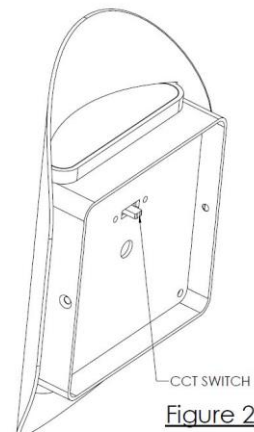

Figure 2
- C. Connect the white wire from the fixture to the white (N) wire from the supply power source.
- D. Connect the black wire from the fixture to the black (L) wire from the supply power source.
- A. CCT switch is located on backside of fixture per Figure 2. Adjust switch to desired temperature of 2700K, 3000K, 3500K, 4000K, or 5000K as seen below. Note: Fixture is preset to 3000K from factory.
- A. Install the fixture (3) by aligning side hole with the mounting bracket (1) then using two screws (4) to secure it.
- A. Apply a small amount of silicone (not included) per manufacturer's recommendation around the perimeter of the fixture (3) where it contacts with the surface of the wall but not on the bottom.